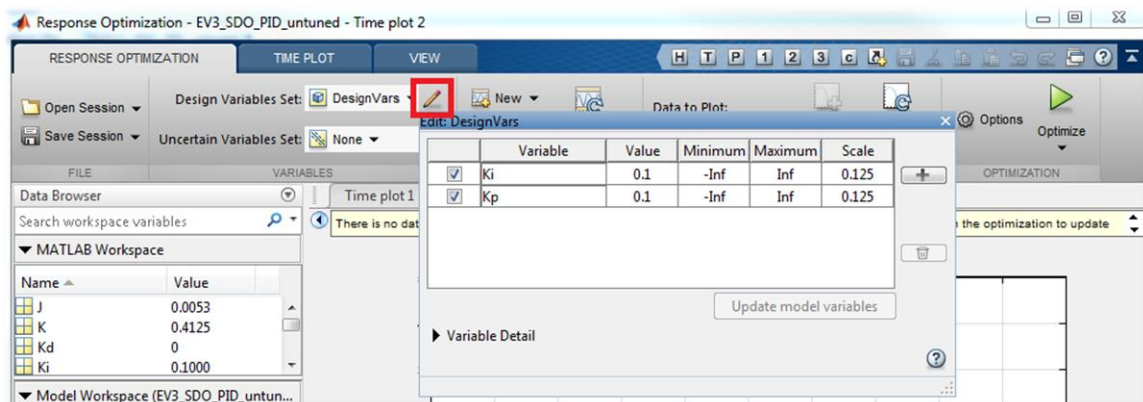

Figure 50 - PID values as design variables
3. Examine the current PI values which will act as the independent variables in the optimization. This can be viewed by first clicking on the **Response Optimization** tab. Click on the Pencil Icon to bring up the design variables menu. This is shown in Figure 50.